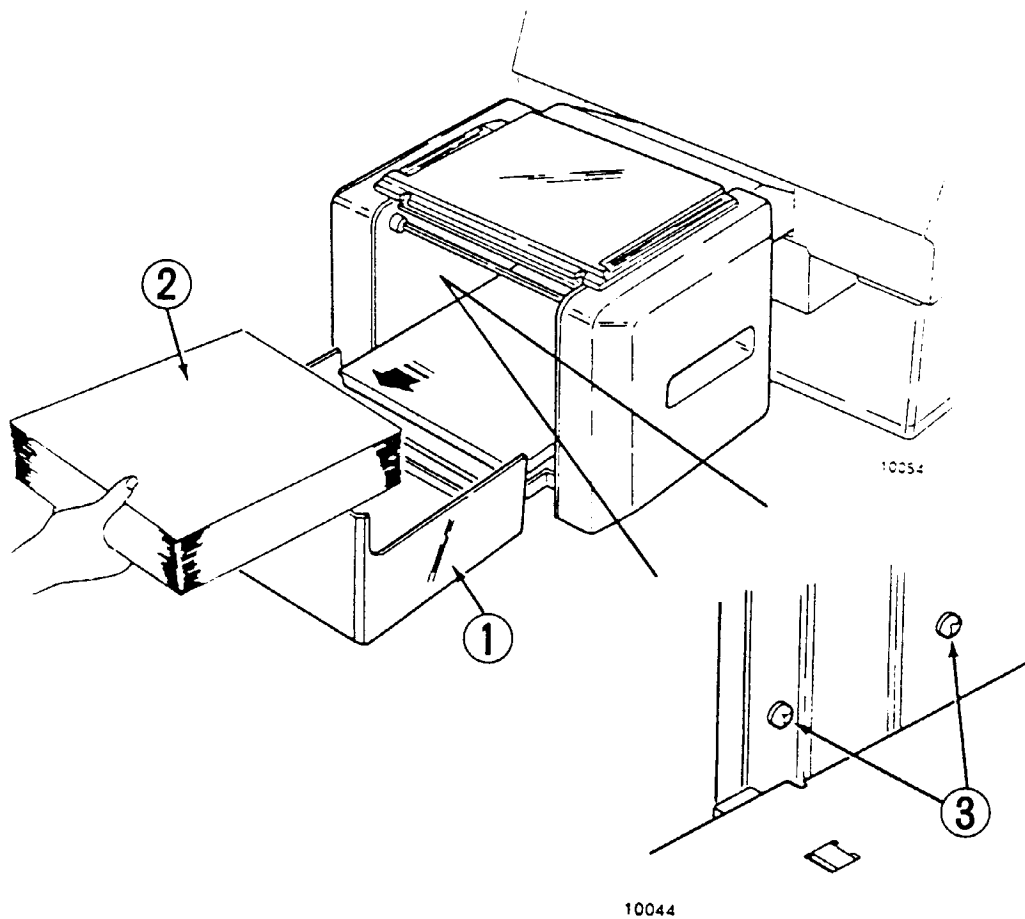

FIGURE 4-1. SIDE COVER REMOVAL
1. Open paper cover (see Figure 4-1).